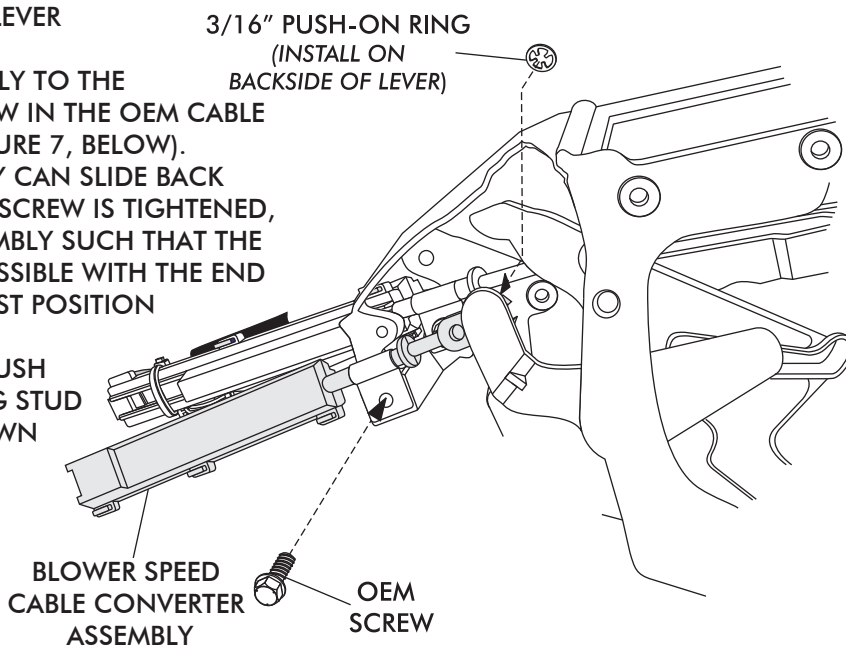

FIGURE 7
- INSTALL THE CABLE CONVERTER ASSEMBLY ONTO THE HI/ OFF LEVER (SEE FIGURE 7, BELOW).
- INSTALL THE CABLE CONVERTER LEVER PUSH ROD ONTO THE OEM CABLE MOUNTING STUD ON THE LEVER (SEE FIGURE 7, BELOW).
- SECURE THE CABLE CONVERTER ASSEMBLY TO THE CONTROL PANEL USING THE OEM SCREW IN THE OEM CABLE CLAMP MOUNTING LOCATION (SEE FIGURE 7, BELOW).
- SECURE THE CABLE CONVERTER LEVER PUSH ROD ONTO THE OEM CABLE MOUNTING STUD USING A 3/16" PUSH-ON RING AS SHOWN IN FIGURE 7, BELOW.